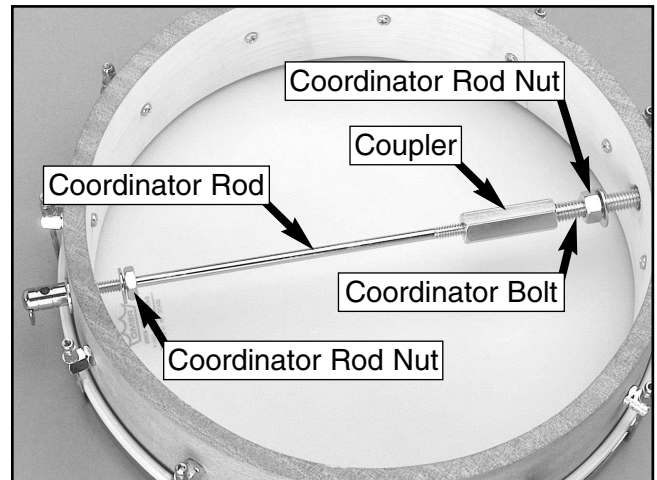

Figure 10. Installing the coordinator rod.
4. Thread the coupler onto the coordinator rod and the coordinator bolt, as shown in **Figure 10**, and finger tighten only.